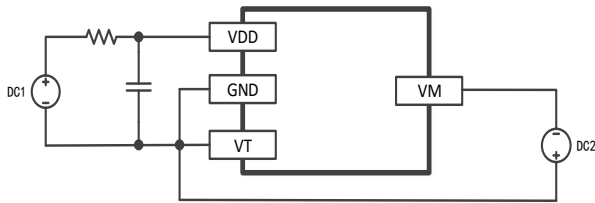

Figure7-1
a. According to the figure7-1, connect the power supply DC1 to the B + and GND pins of the system board and set the voltage to about 3.6V. Connect the power supply from GND to VM to DC2 power supply and set 100mV current limiting 10mA. Observe the waveform.